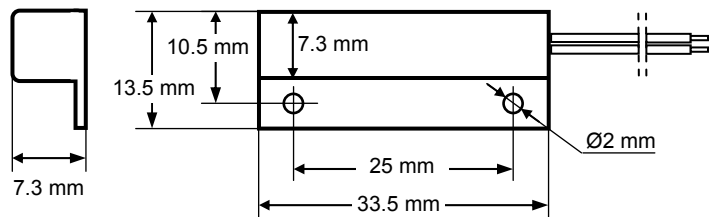
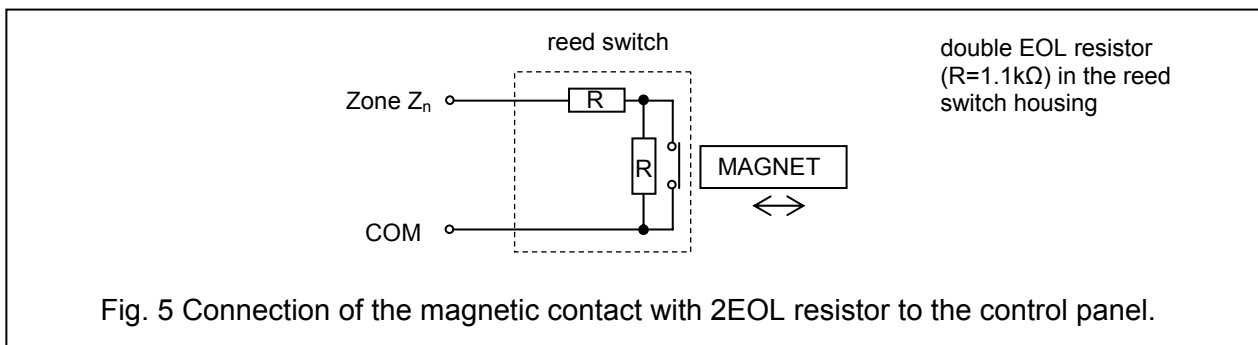

Fig. 1 K-1 2E reed switch in plastic housing
Fig. 5 Connection of the magnetic contact with 2EOL resistor to the control panel.
The magnetic contacts consist of two elements: magnetic sensor (reed switch) and magnet. The reed switch, which is situated near the magnet, makes the electric circuit. Each of the magnetic contact elements is placed in an identical watertight housing, the part with reed switch having electric lead-outs (Fig. 1,2,3). Inside the housing together with the reed switch are installed two 1.1k $\Omega$  resistors connected with the reed switch in 2EOL configuration (see Fig. 5). They enable the control panel to detect a tamper of the magnetic contact by monitoring the resistance changes on the zone. Each detector of this type must be connected to a separate zone of the control panel.
**HOOKUP – Fig. 5**